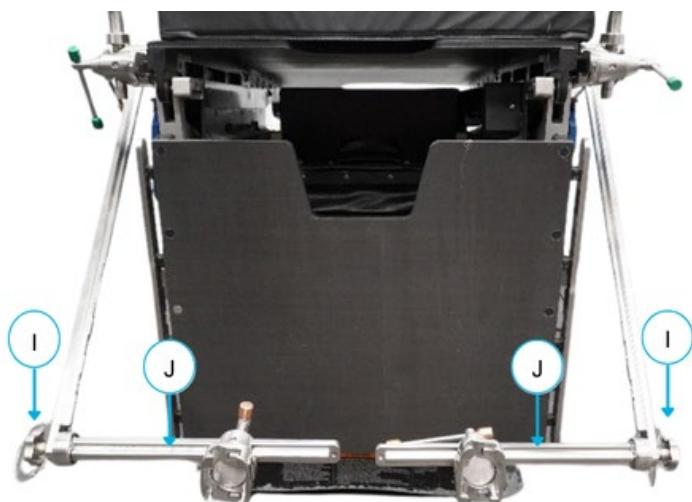

Figure 10-15: Horizontal (short) Stabilizer Mounts Attachment
7. Attach one Horizontal (short) Stabilizer Mount to the Vertical (long) Stabilizer Mount using attached knob (**I**) (**Figure 10-15**).